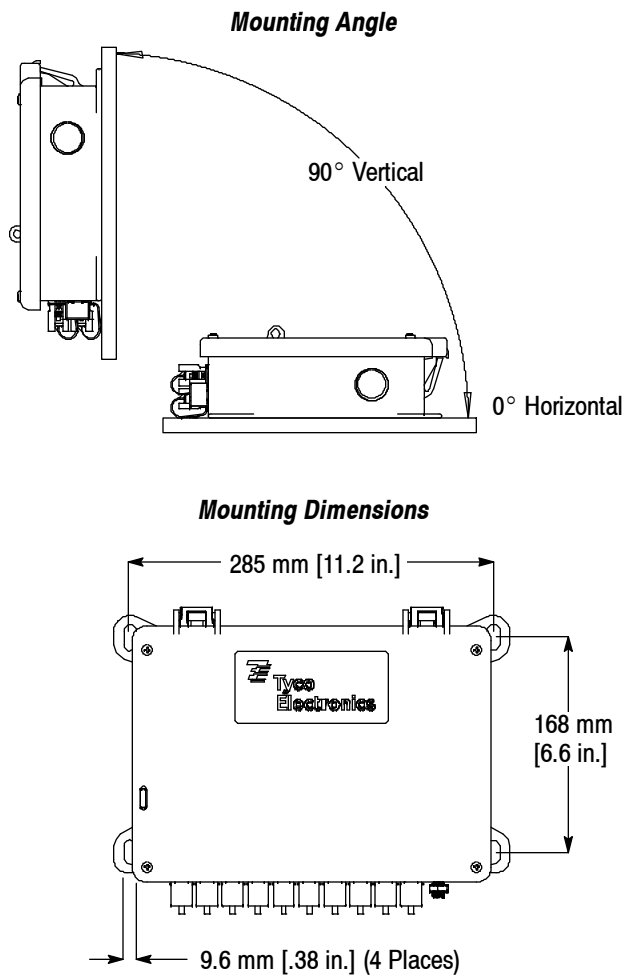

Figure 2
2. Mount the transition box onto a planar surface using the mounting slots (DO NOT drill holes into the transition box) and appropriate hardware: stainless steel ¹/₄- or ³/₈-in. bolts or screws with washers. See Figure 2 for mounting dimensions.